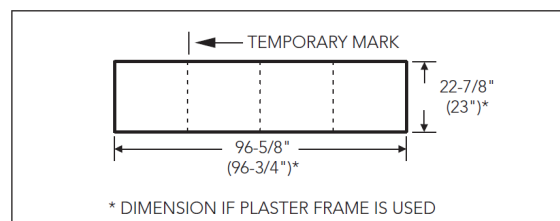

Figure 8b
- b.) For 2' x 2' fixtures, use the 24-5/8" (or 24-3/4" when using a Plaster Frame) ceiling opening length for an individual fixture and add 24" for each additional fixture being included in the row. (Example: If the application required 4 fixtures in the row, the ceiling opening would be 22-7/8" wide by 96-5/8" long (or 96-3/4" with plaster frame). The length is determined by adding 24-5/8" + 24" + 24" + 24".) (See Figure 8b)